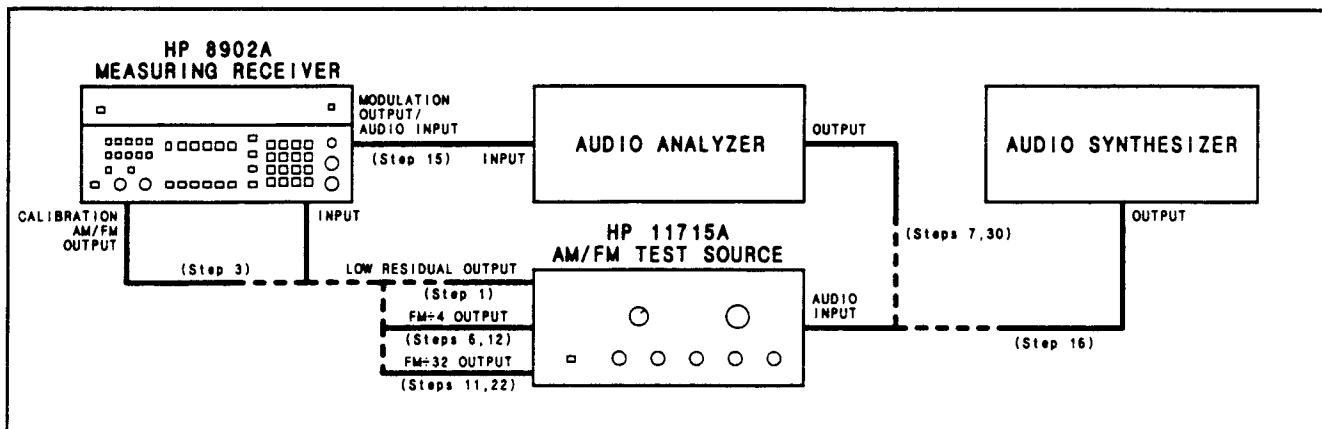

Figure 4-2. FM Performance Test Setup
1. On the AM/FM test source, set the test mode to residual FM. Connect its low-residual (560 MHz) output to the Measuring Receiver's INPUT. (See Figure 4-2.)
3. Connect the Measuring Receiver's CALIBRATE AM/FM OUTPUT to the INPUT. (See Figure 4-2.)
6. On the AM/FM test source, set the test mode to FM. Connect its FM÷4 output to the Measuring Receiver's INPUT. (See Figure 4-2.)
7. Set the audio analyzer's oscillator to 10 kHz at 1V. Connect its output to the audio input of the AM/FM test source. (See Figure 4-2.)
11. Connect the FM÷32 output of the AM/FM test source to the Measuring Receiver's INPUT without disturbing the AM/FM test source's controls. (See Figure 4-2.) Multiply the displayed ratio on the Measuring Receiver by the calibration factor of step 4. (For example, if the display reads 12.52% REL and the calibration factor of step 4 is 100.4%, the result is $12.52 \times 100.4 = 12.57\%$ REL.) The result should be between 12.35 and 12.65% REL.
12. Connect the FM÷4 output of the AM/FM test source to the Measuring Receiver's INPUT. (See Figure 4-2.)
15. Connect the audio analyzer's input to the Measuring Receiver's MODULATION OUTPUT/AUDIO INPUT. (See Figure 4-2.) Set the audio analyzer to measure the distortion on the 100 kHz signal at the MODULATION OUTPUT/AUDIO INPUT (all audio analyzer filters should be off). The distortion should be 0.1% or less (-60 dB or less).
16. Set the multifunction synthesizer to 10 kHz at +5 dBm. Connect its output to the audio input of the AM/FM test source. (See Figure 4-2.) Fine adjust the level for a Measuring Receiver display of 100 kHz times the calibration factor of step 5. (For example, if the calibration factor of step 5 is 100.4%, set the level for a display of 100.4 kHz.)
22. Connect the FM÷32 output of the AM/FM test source to the Measuring Receiver's INPUT. (See Figure 4-2.)
30. Set the audio analyzer's oscillator to 10 kHz at 4V. Connect its output to the audio input of the AM/FM test source. (See Figure 4-2.) Fine adjust the oscillator level for a Measuring Receiver display of 10 kHz peak deviation.